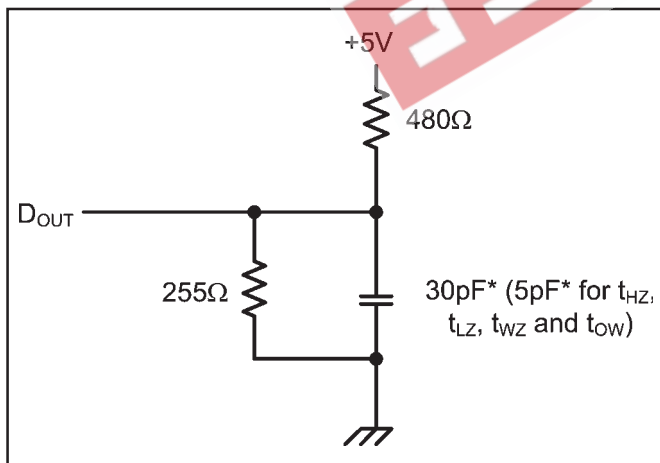

Figure 1. Output Load
- 7. Transition is measured  $\pm 200\text{mV}$  from steady state voltage prior to change with specified loading in Figure 1. This parameter is sampled and not 100% tested.
- Transition is measured  $\pm 200\text{mV}$  from steady state voltage prior to change with specified loading in Figure 1. This parameter is sampled and not 100% tested.
Output Load	See Figures 1 and 2